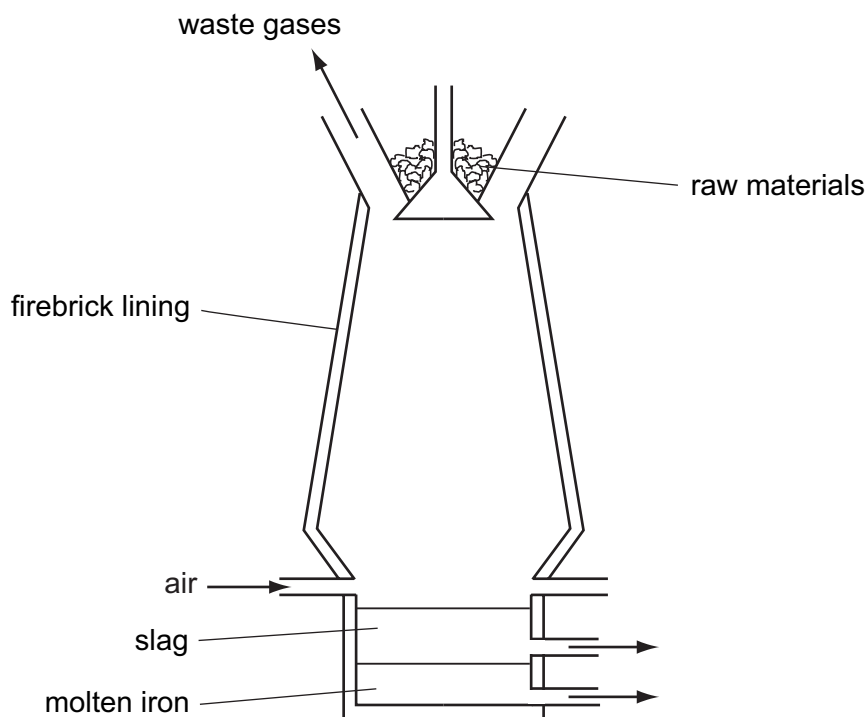

Fig. 2.1
- 2 Fig. 2.1 shows the production of iron in a blast furnace.